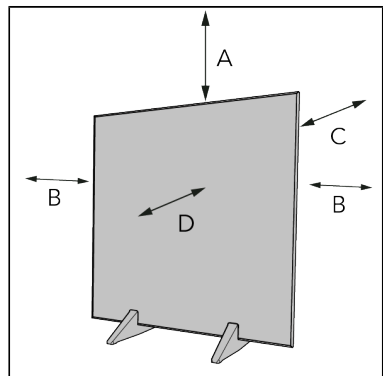

Figure 40.
4. Place the device with a minimum clearance distance (Figure 40) of: